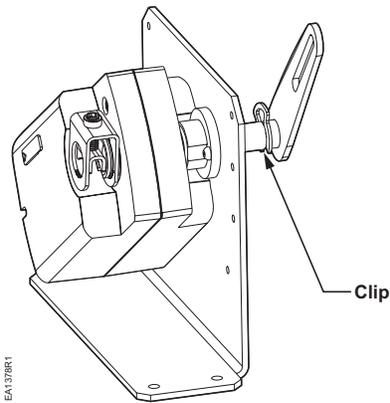

Figure 2. Clip Position for Lever Opposite the Actuator.
- If the lever is to be mounted opposite of the actuator, assemble the clip as shown in Figure 2.